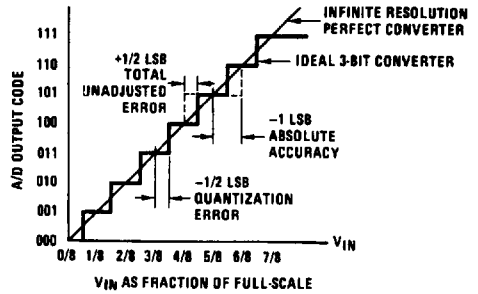
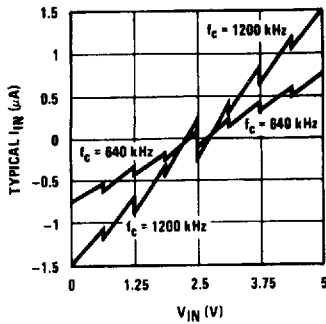

FIGURE 3. 3-Bit A/D Absolute Accuracy Curve
FIGURE 6. Comparator  $I_{IN}$  vs  $V_{IN}$  ( $V_{CC} = V_{REF} = 5V$ )
**Note 1:** Absolute Maximum Ratings indicate limits beyond which damage to the device may occur. DC and AC electrical specifications do not apply when operating the device beyond its specified operating conditions.**Note 2:** All voltages are measured with respect to GND, unless otherwise specified.**Note 3:** A zener diode exists, internally, from  $V_{CC}$  to GND and has a typical breakdown voltage of  $7 V_{DC}$ .**Note 4:** Two on-chip diodes are tied to each analog input which will forward conduct for analog input voltages one diode drop below ground or one diode drop greater than the  $V_{CC}$  supply. The spec allows 100 mV forward bias of either diode. This means that as long as the analog  $V_{IN}$  does not exceed the supply voltage by more than 100 mV, the output code will be correct. To achieve an absolute 0  $V_{DC}$  to 5  $V_{DC}$  input voltage range will therefore require a minimum supply voltage of  $4.900 V_{DC}$  over temperature variations, initial tolerance and loading.**Note 5:** Total unadjusted error includes offset, full-scale, and linearity errors. See Figure 3. None of these A/Ds requires a zero or full-scale adjust. However, if an all zero code is desired for an analog input other than 0.0V, or if a narrow full-scale span exists (for example: 0.5V to 4.5V full-scale) the reference voltages can be adjusted to achieve this. See Figure 13.**Note 6:** Comparator input current is a bias current into or out of the chopper stabilized comparator. The bias current varies directly with clock frequency and has little temperature dependence (Figure 6). See paragraph 4.0.**Note 7:** If start pulse is asynchronous with converter clock or if  $f_c > 640 \text{ kHz}$ , the minimum start pulse width is 8 clock periods plus  $2 \mu s$ . For synchronous operation at  $f_c \leq 640 \text{ kHz}$  take start high within 100 ns of clock going low.**Note 8:** The outputs of the data register are updated one clock cycle before the rising edge of EOC.**Note 9:** Human body model, 100 pF discharged through a 1.5 k $\Omega$  resistor.
The average value of the comparator input current varies directly with clock frequency and with  $V_{IN}$  as shown in Figure 6.